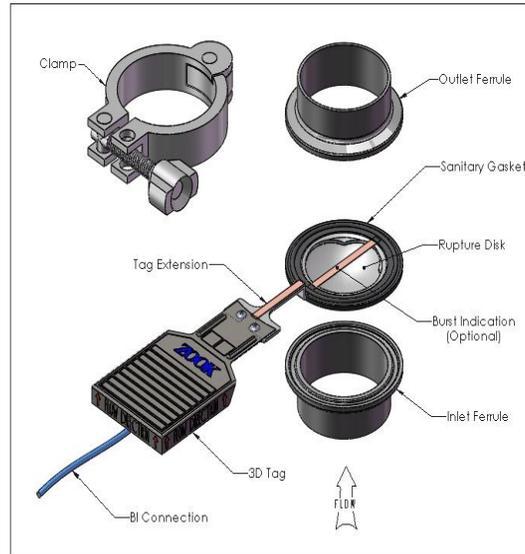

Figure 1
- d) **FOR SANITARY CLAMP STYLE INSTALLATION (Figure 1):**